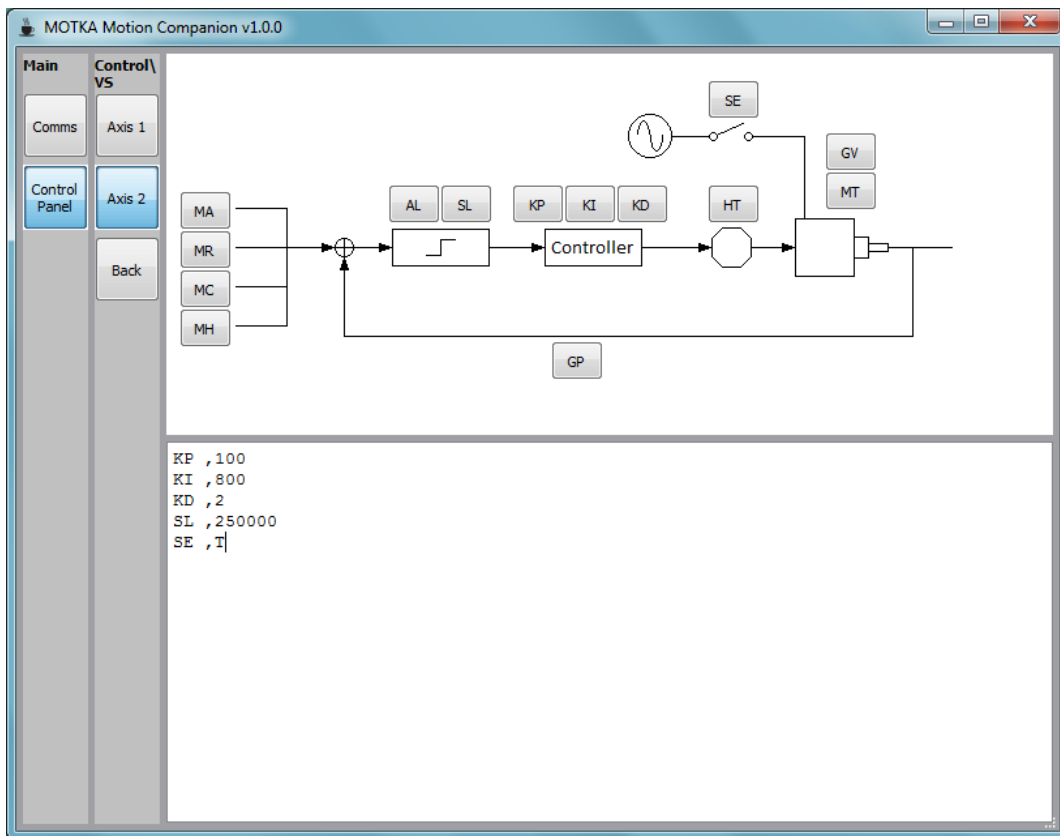

Figure 9: Generate the Move Relative (MR) command for Axis 2
- Select the *MR* button, enter 50000 in the edit field. *The MR ,50000* will be created in the *Command Pane* (see Figure 9) once we *Set* it. *Close* the dialog box.